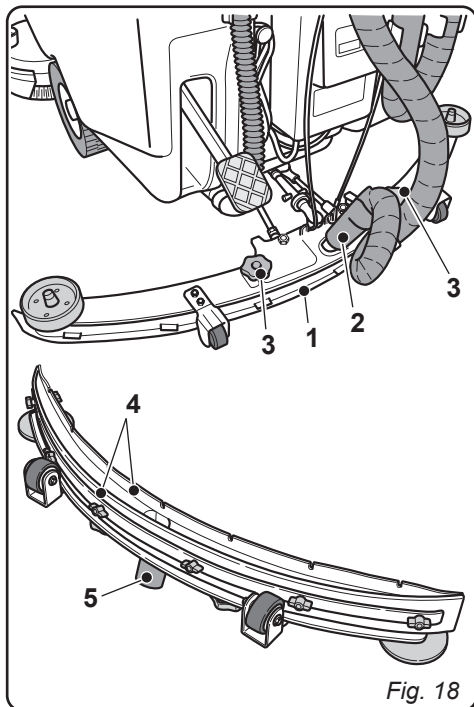

Fig. 18
- Remove the cover (1).
- Lift the tank (2).
- Leaving the hose (3) lowered and the cap off, pour water into the tank (2) through a hose, cleaning it until clean water comes out of the drain hose.
- Put a hand inside the tank and clean the level feelers (4) with a damp cloth, paying attention not to deform them.
- Unscrew the Allen screw (5) and remove the filter cover (6).
- Remove and clean the suction filter (7), removing any pieces of paper, wood, etc., which may be obstructing it.
10.1.c - Cleaning the squeegee (Fig. 18)